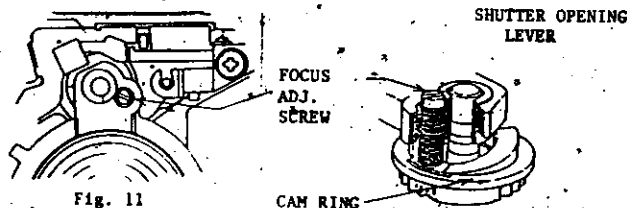

Fig. 11
4) Adjust with the focus adjustment screw. (Fig. 11)